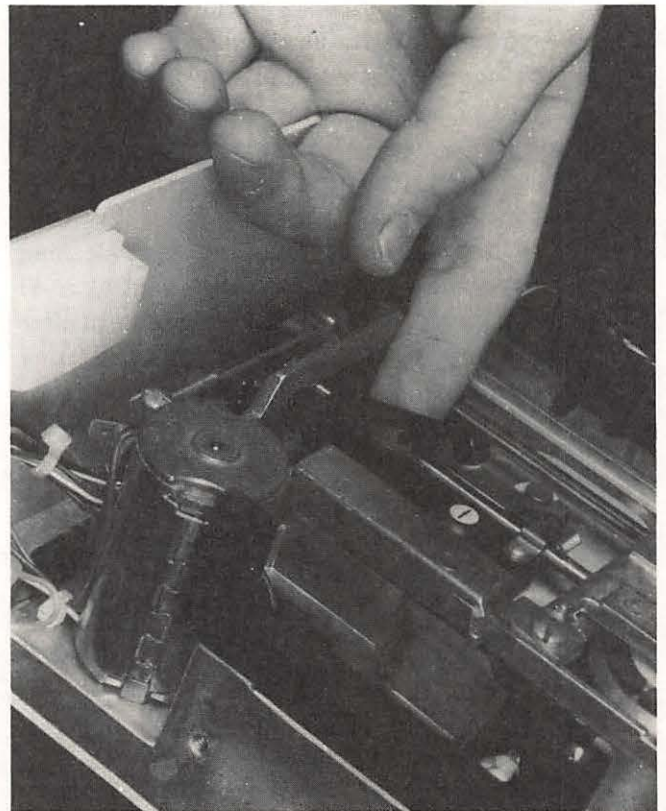

Fig. 8-15. Carefully lift the head load arm to expose the read head below.
12. Disconnect the 4-pin plug at location (A).
13. Disconnect the ribbon cable at location (B).
14. Disconnect the black cable plug at location (C).
16. Gently slip the printed circuit analog card toward the front of the disk drive past the two black plastic hold-downs at (D) and (E).
18. Carefully lift the black head load arm as shown in Fig. 8-15 and look for discoloration (build-up) on the surface of the pad or on the read/write head below.